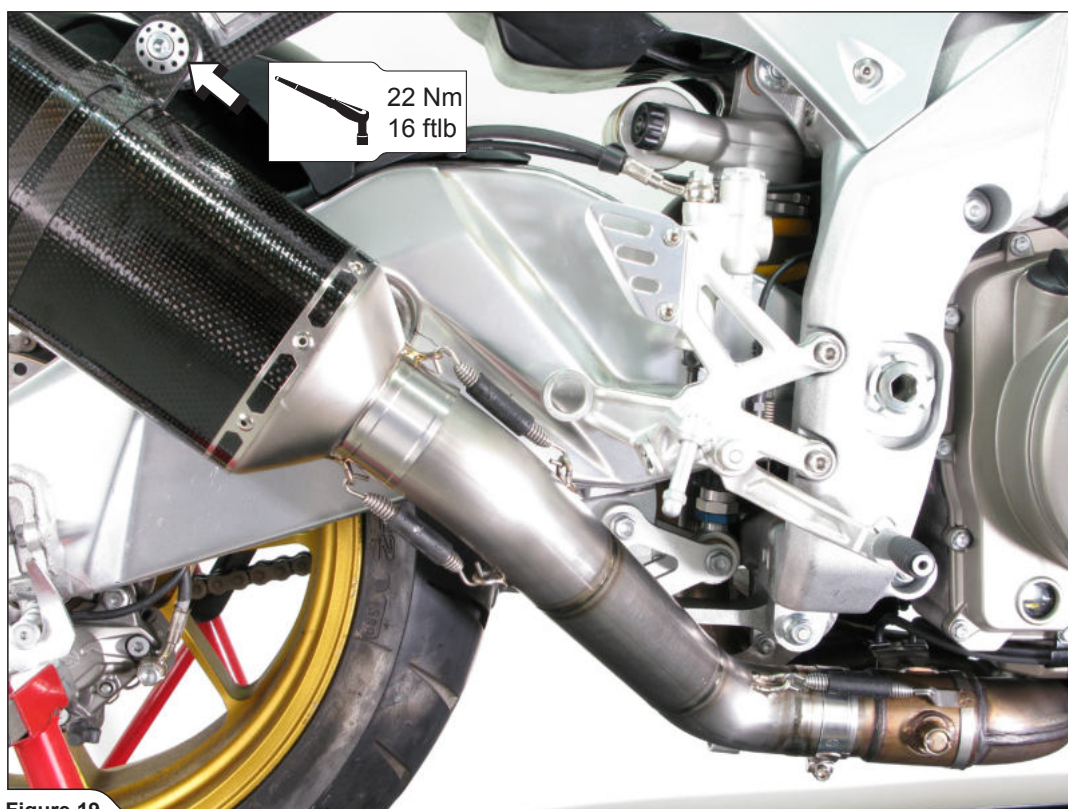

Figure 19
10. Align the muffler in respect to the motorcycle and tighten the muffler clamp using Akrapovič bolt, washer and aluminium distance bush with stock spacer bush and nut as shown in figure (Figure 19, 20).